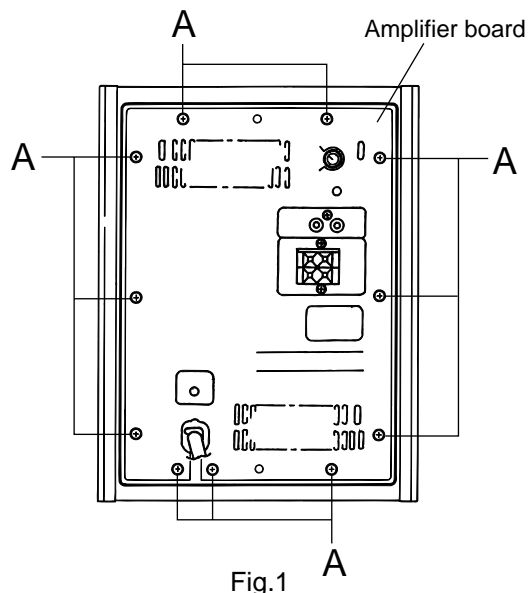

Fig.1
■ Removing the amplifier assembly (See Fig.1)